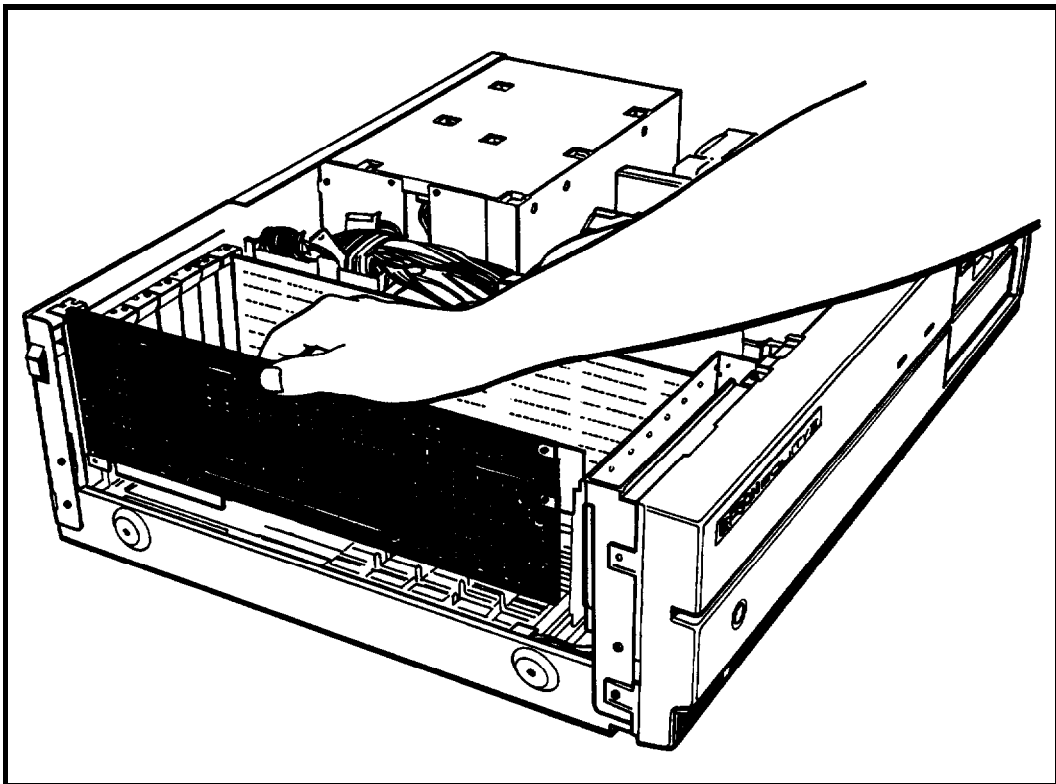

Figure 4-5. *Inserting an option card*
4. Slide the card straight into the slot as shown in Figure 4-5, guiding it down the black plastic guide plate at the front end of the computer. When the card is almost all the way in, make sure the tab at the bottom of the metal adapter plate on the end of the card goes into the corresponding notch at the back of the computer.